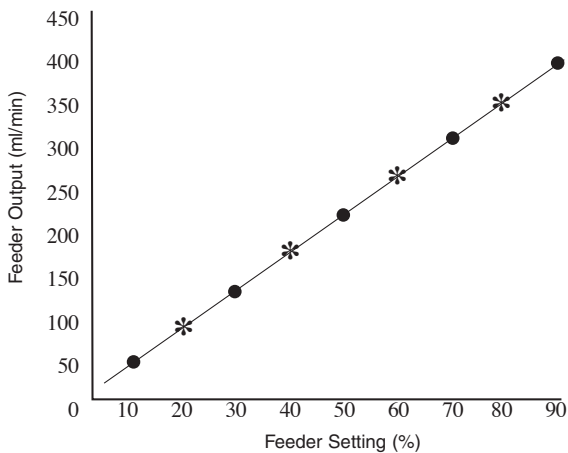

Figure 1
After performing the calibrations with three repetitions (averaged) at each setting for the full range of settings, plot a graph to establish the relationship of the settings to the feed rates. The plotted graph from Table 1 is usually a straight line (Figure 1).
*indicates data taken from the graph in figure 1
Modify the data in Table 1 with the additional feeder settings from the graph (Figure 1).